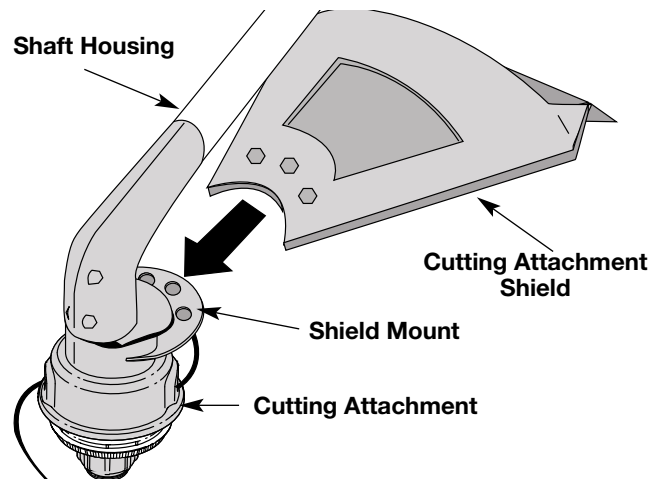
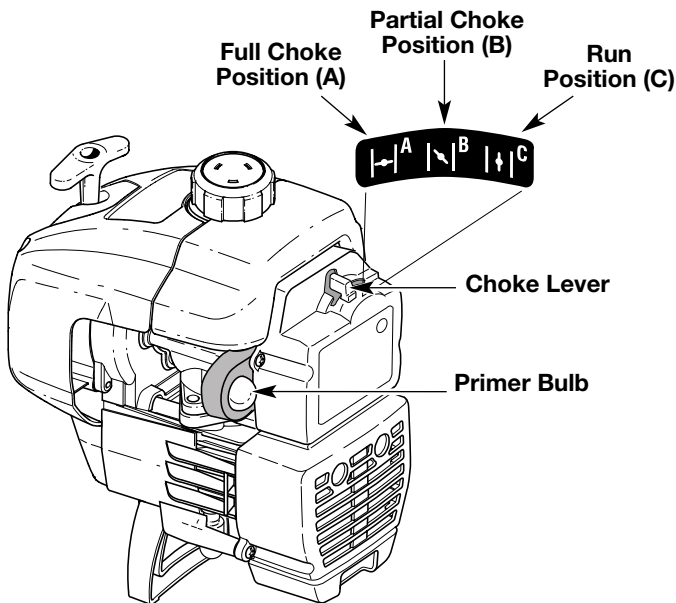

Fig. 4
Fig. 8
1. Slide the cutting attachment shield into the shield mount on the cutting attachment. Align the screw holes in the shield with the holes in the cutting attachment (Fig. 4).
3. Fully press and release primer bulb slowly 5 to 7 times. Fuel should be visible in the bulb (Fig. 8). If fuel is not visible, press three (3) more times, or until it is.
4. Place the choke lever in the **FULL** choke position (A) (Fig. 8).
6. Place the choke lever in the **PARTIAL** choke position (B) (Fig. 8).
NOTE: If the engine floods while trying to start, place the choke lever in the **RUN** position (C) (Fig. 8). Squeeze the throttle control. Pull the starter rope briskly. The engine should start within three (3) to eight (8) pulls.
9. Squeeze the throttle control to warm up engine for 5 to 10 seconds. Place the choke lever in the **RUN** position (C) (Fig. 8).
NOTE: Choking is unnecessary when starting a warm engine. Put the On/Off Stop Control in the **ON** position (Fig. 4), and start in **PARTIAL** Choke position (B) (Fig. 8).